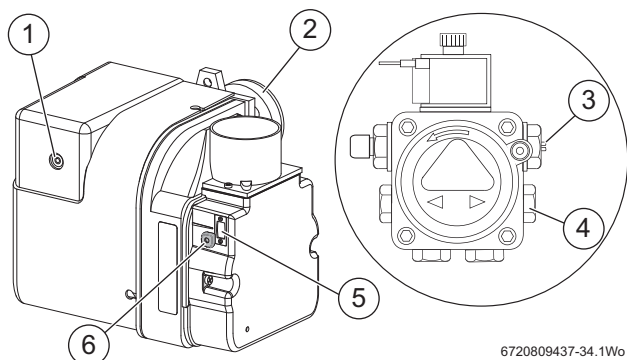

Fig. 55
- ▶ Check for after-sputtering from the nozzle, indicated by oil saturation on the combustion head [2] figure 55.
- ▶ Remove the combustion head [2] figure 55 and electrodes, hold the burner vertically, unscrew the nozzle and fill the nozzle holder with kerosene.
- ▶ Refit nozzle, electrodes, combustion head [2] figure 55 and burner.
- ▶ Check the CO2 levels and adjust the air shutter [6] figure 55 setting according to the table opposite.
If the flue gas temperature is too high and the baffles are correctly fitted, then reduce the oil pump pressure [3] fig. 55, 5-10 p.s.i. to compensate for nozzle variations. If the pump pressure has been changed, the CO2 levels must be rechecked and air shutter adjusted if necessary.
- ▶ Refit the blanking plug [4] figure 55.
- ▶ Recheck the CO2 levels and if required, adjust the air shutter setting [6] figure 55 to obtain the correct CO2 level.